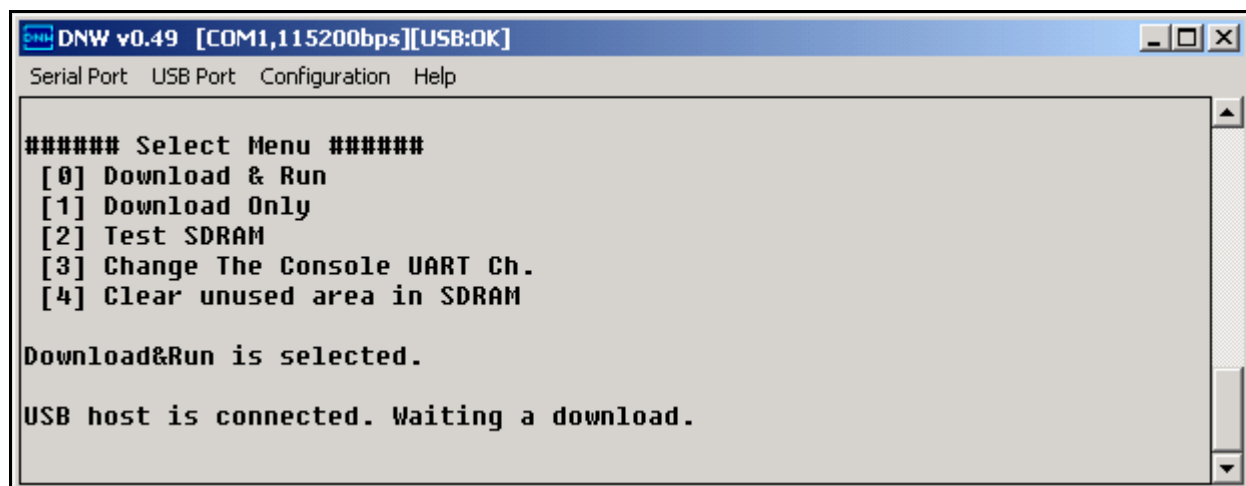

Figure 5-5 Download & Run
7. Please enter '0' to Download and Run the Image on the board. The DNW application window will now appear on your screen as shown below in the figure 5-5.